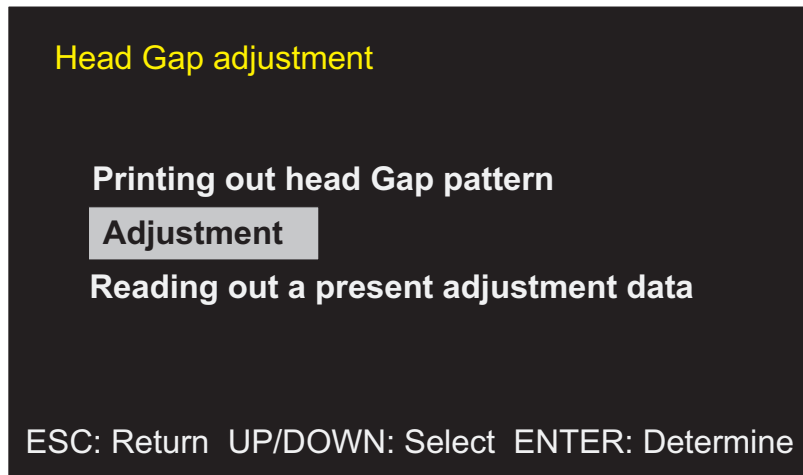

Figure 5-38. Selecting "Adjustment" on the Screen
- Step24. When the good sample is found among 3 patterns, remember that parameter value and select "Adjustment" on the "Head Gap Adjustment" screen. (Refer to figure5-38)